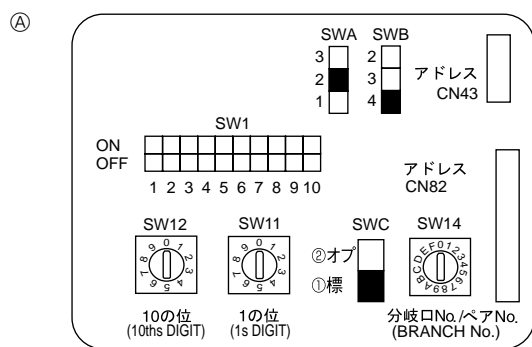

Fig. 4-4
- ③ Wireless remote controller (When installing wireless signal receiver)
- (A) Terminal block for indoor transmission cable
- (B) Terminal block for outdoor transmission cable (M1(A), M2(B), (S))
- (C) Remote controller
- (D) wireless signal receiver
- (E) wireless remote controller
4.5. Setting addresses (Fig. 4-4)
- ① How to set addresses
- ② How to set branch numbers SW14 (Series R2 only)
- (A) Address board
4.6. Switch setting for high ceiling or at the time of changing the number of air outlets (Fig. 4-4)
④	4 direction	2.7 m	3.2 m	4.5 m
③	3 direction	3.0 m	3.6 m	4.5 m
②	2 direction	3.3 m	4.0 m	4.5 m
4.7. Sensing room temperature with the built-in sensor in a remote controller (Fig. 4-4)